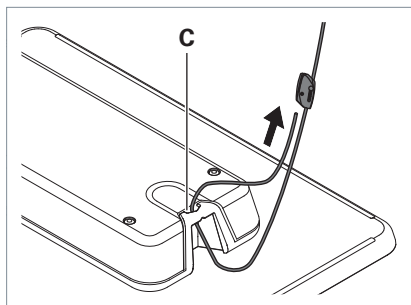

Fig. 3: Fastening the wire rope to the luminaire.
- ▶ Guide the wire rope through the recess **C** of the luminaire, see Fig. 3.
- ▶ Guide the wire rope through the second eyelet of the wire rope holder, see Fig. 3.